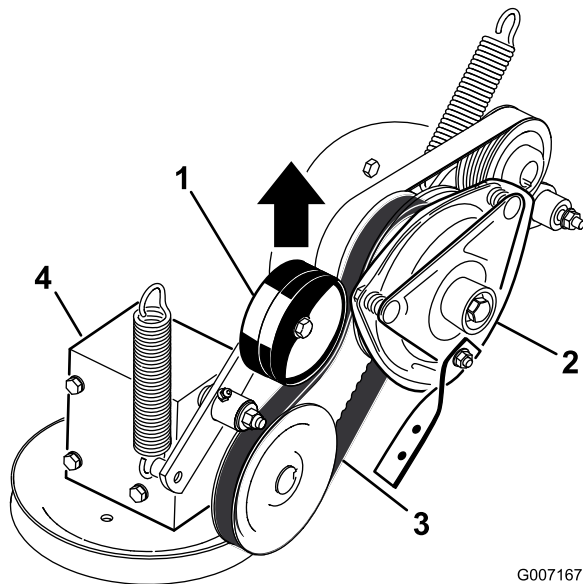

Figure 61
5. Pull up on the spring loaded idler pulley for the PTO drive belt and remove the belt from the clutch pulley (Figure 61).
17. Pull up on the spring loaded idler for the PTO drive belt and install it onto the clutch pulley (Figure 61).